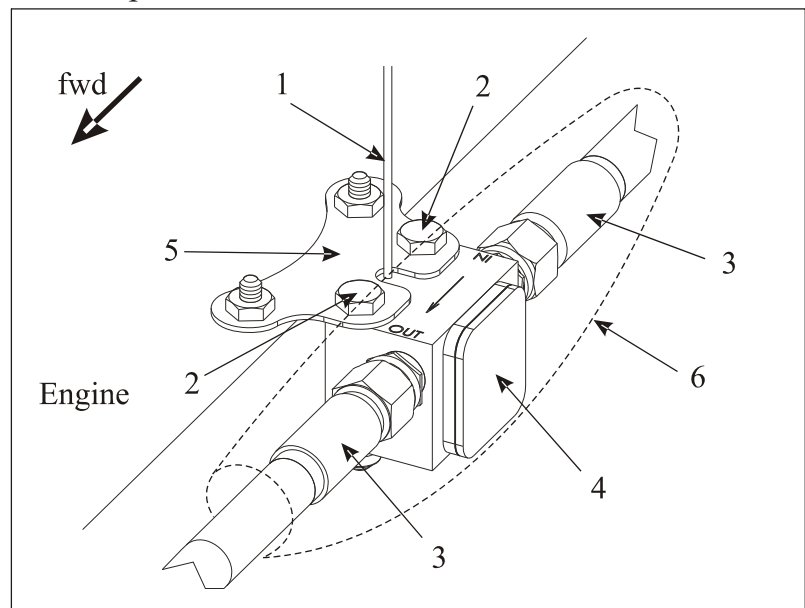

Figure 6
- 3 Remove the fire sleeve (6).
- 4 Disconnect the fuel hoses (3, Figure 6) from the transducer (4).
- 5 Disconnect the electrical wiring (1) from the transducer.
- 6 Remove the attachment bolts (2) and remove the transducer from the mounting sheet (5).
The OT probe is screwed to the respective port on the aft engine side (see Figure 6 of Chapter 79-30-20).